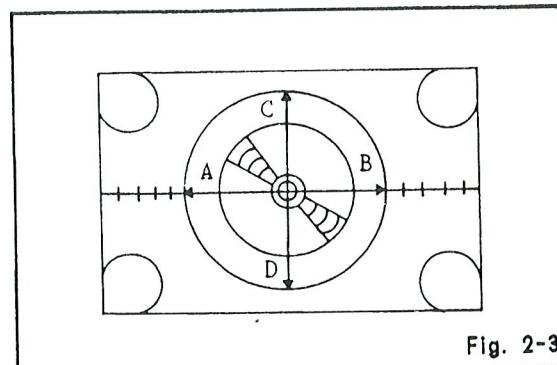

Fig. 2-3
3. Adjust VR406 to AB = CD as shown in Fig. 2-3.